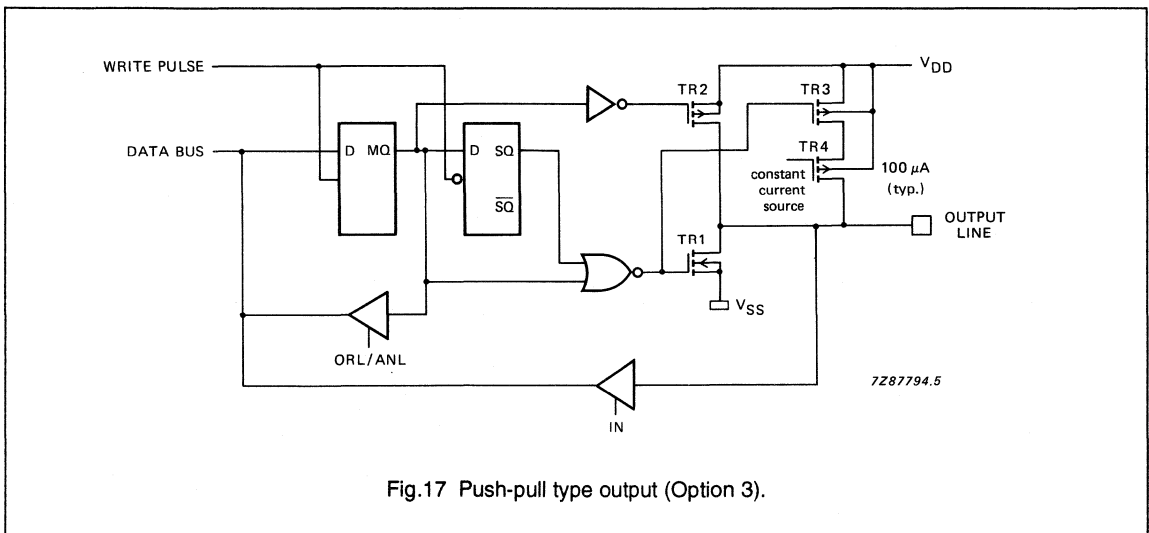

Fig.17 Push-pull type output (Option 3).
- Option 3: Push-pull (output only, see Fig. 17).